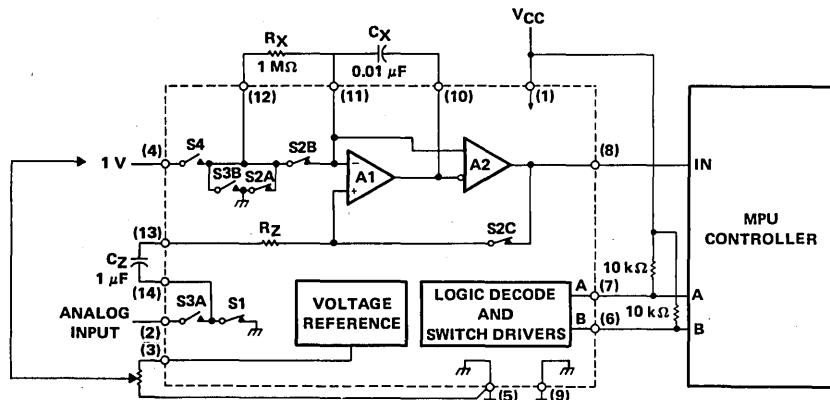
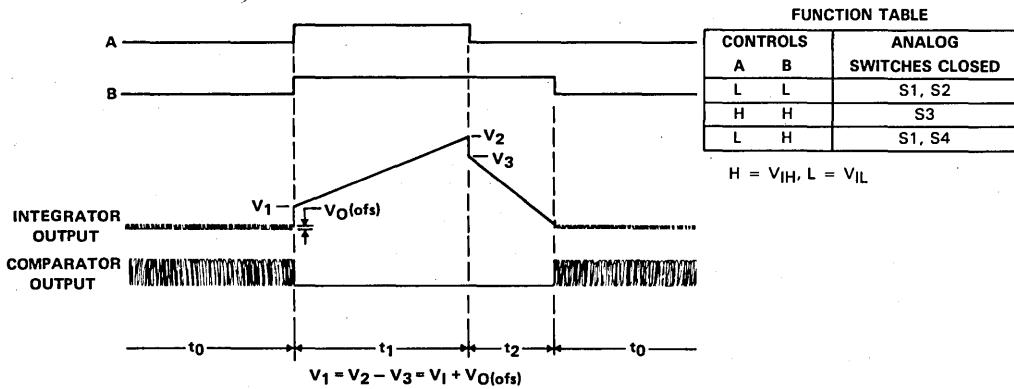

FIGURE 1. FUNCTIONAL BLOCK DIAGRAM OF TL505C INTERFACE WITH A MICROPROCESSOR SYSTEM
FIGURE 2. CONVERSION PROCESS TIMING DIAGRAMS
**electrical characteristics,  $V_{CC} = 9 \text{ V}$ ,  $V_{ref(I)} = 1 \text{ V}$ ,  $T_A = 25^\circ\text{C}$ , connected as shown in Figure 1 (unless otherwise noted)**
**system electrical characteristics,  $V_{CC} = 9 \text{ V}$ ,  $V_{ref(I)} = 1 \text{ V}$ ,  $T_A = 25^\circ\text{C}$ , connected as shown in Figure 1 (unless otherwise noted)**
A block diagram of an MPU system utilizing the TL505C is shown in Figure 1. The TL505C operates in a modified positive-integration three-step dual-slope conversion mode. The A/D converter waveforms during the conversion process are illustrated in Figure 2.
At the conclusion of  $t_0$ , the MPU takes the A and B inputs both high closing S3 and opening all other switches. The input signal  $V_I$  is applied to the noninverting input of A1 through  $C_Z$ .  $V_I$  is then positively integrated by A1. Since the offset of A1 is stored in  $C_Z$ , the change in voltage across  $C_X$  will be due to only the input voltage. It should be noted that since the input is integrated in a positive integration during  $t_1$ , the output of A1 will be the sum of the input voltage, the integral of the input voltage, and the comparator offset, as shown in Figure 2. The change in voltage across capacitor  $C_X$  ( $\Delta V_{CX}$ ) during  $t_1$  is given by